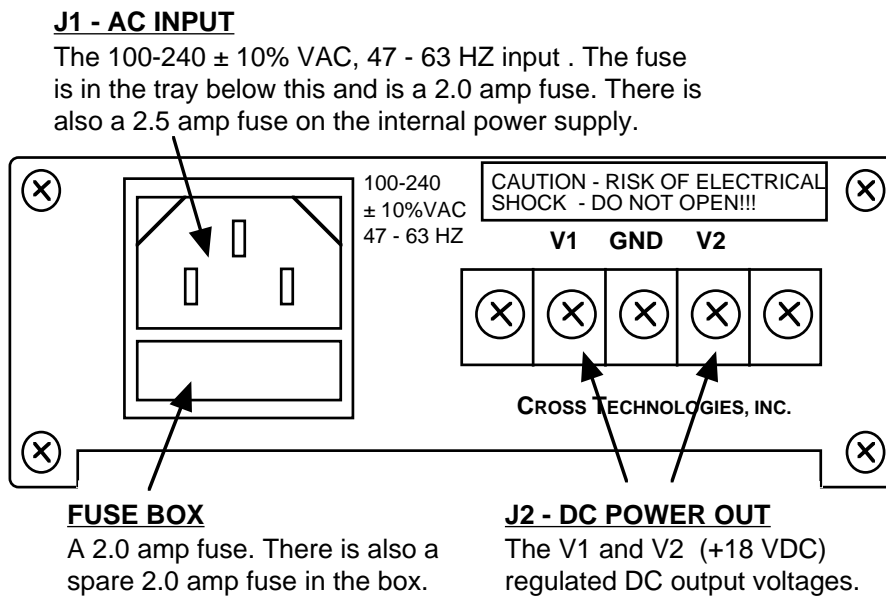
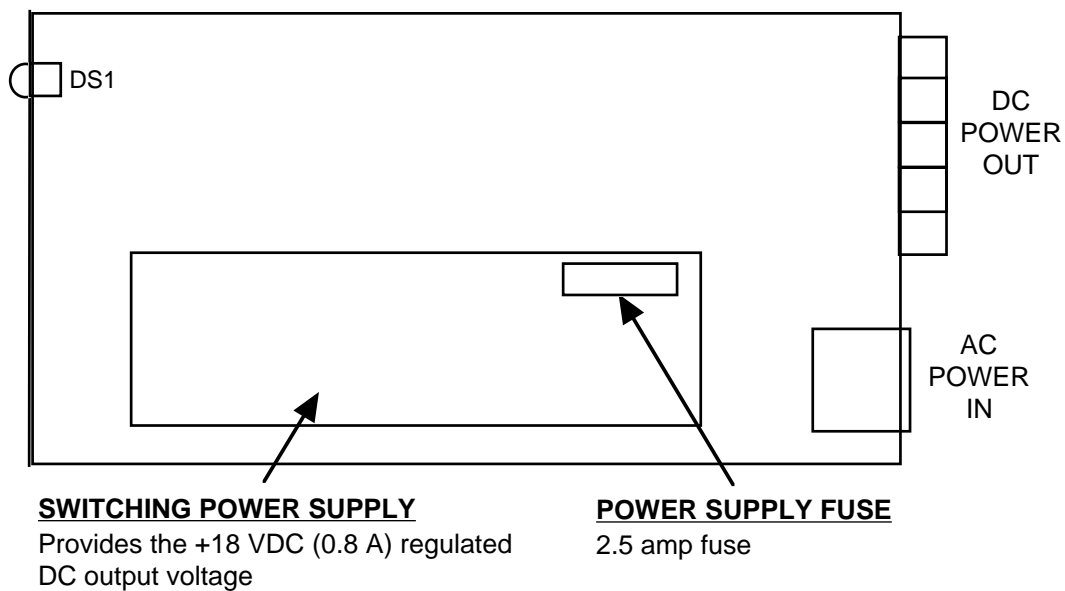

FIGURE 2.3 2000-02 Rear Panel Inputs and Outputs
FIGURE 2.4 2000-02 On-Card AC Power Supply Fuse
The **primary fuse** is in the AC connector fuse box (Figures 2.3 and 2.5). Figure 2.4 shows the **secondary fuse** on the power supply.
3. With AC Power disconnected, replace fuse with a 2.5 amp fuse (Figure 2.4).
5. Install four (4) rear panel screws.
1. Connect the DC power output to the Series 2000 unit (or other unit) (Figure 2.3).
4. **AC Fuse** - The fuse is a 5 mm X 20 mm, 2 amp slow blow (Type T) and is inserted in the far slot in the drawer below the AC input as shown in Figure 2.4. There is a spare fuse in the near slot. If a fuse continues to open, the power supply is most likely defective.
2. Pull out the fuse box below the AC Input connector (Figure 2.3).